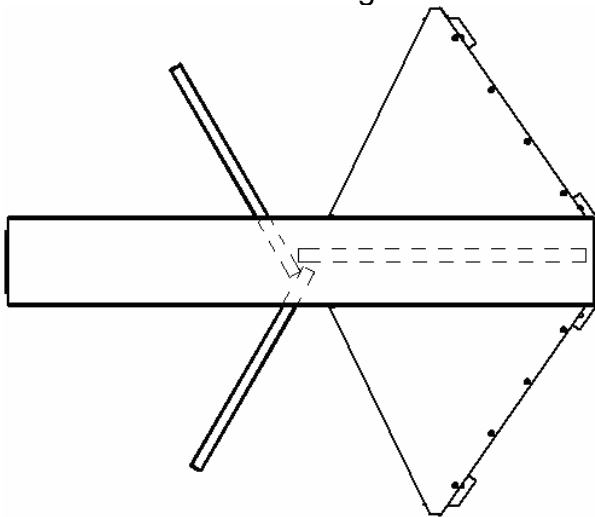

Fig. 11 The barrier wings in the reset state (above view) installed for standard operation
2. holding the half-couplings, undo bolts of the joint union (16) and take off the half-couplings;
- for Lock-chamber operation: install the rotor shaft so that the passageway is closed by two barrier wings in the direction of the supporting posts with LED indicators (6) and (7) (Fig. 11);